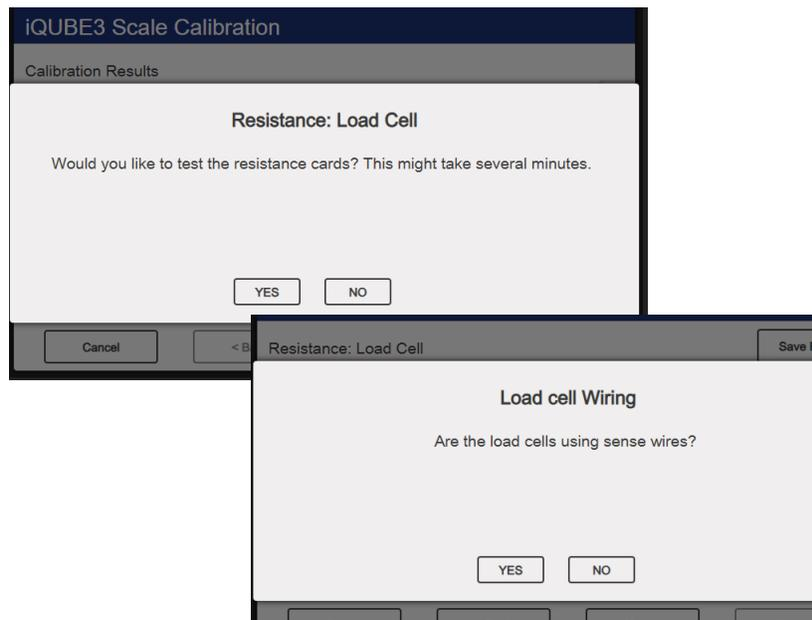

Figure 4-17. iQUBE3 Scale Calibration Menu
- If resistance boards are installed, **Resistance: Load Cell** prompt displays. (Figure 4-17 on page 57)